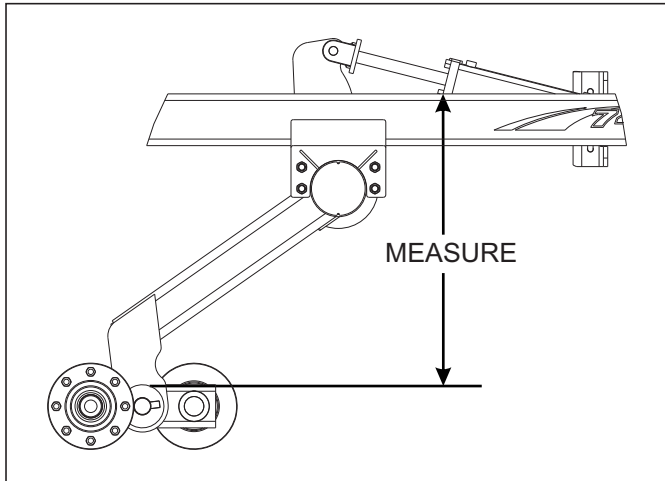

Figure 4-9: Leveling from Side to Side
- d. Measure the distance from the gold cap on the side of the walking beam to the top of the frame on both sides. If there is a difference, it needs to be adjusted by turning the cylinder rods with the wrench flats provided at the clevis end (**See Figure 4-9.**)
- d. On the center frame, measure the distance from the gold on walker to the top side of the frame (**See Figure 4-9.**)